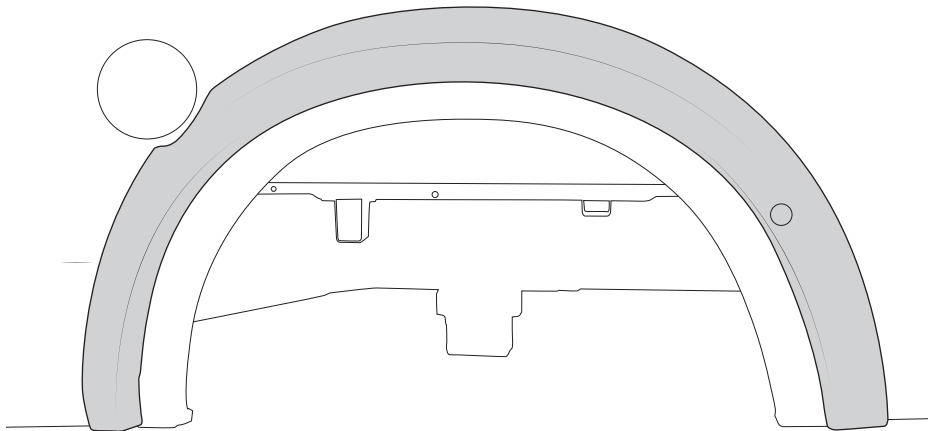

Figure 3 Position flare on bedside
2. With a helper, hold the AEV flare in position on the bedside (fig. 3).